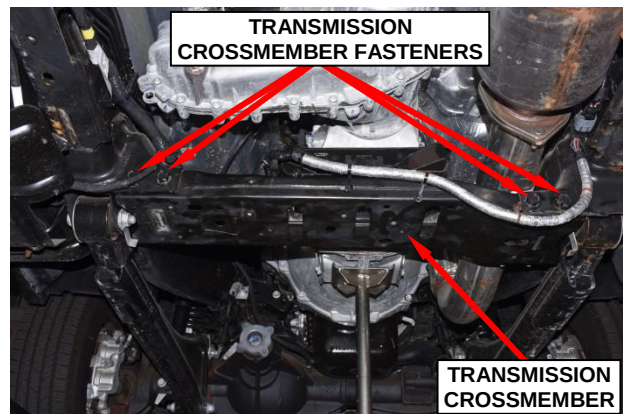

Figure 12 – Crossmember Fasteners
17. Remove and save the four transmission crossmember-to-frame fasteners (Figure 12).
27. Install the transmission crossmember and the crossmember-to-frame fasteners. Tighten the fasteners to: (DD, DF models) 177 ft. lbs. (240 N·m) / (DP models) 94 ft. lbs. (127 N·m) (Figures 12 and 13).